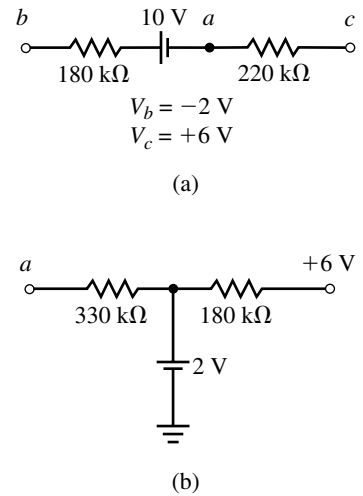

FIGURE 5–83
32. Given the circuits of Figure 5–83: